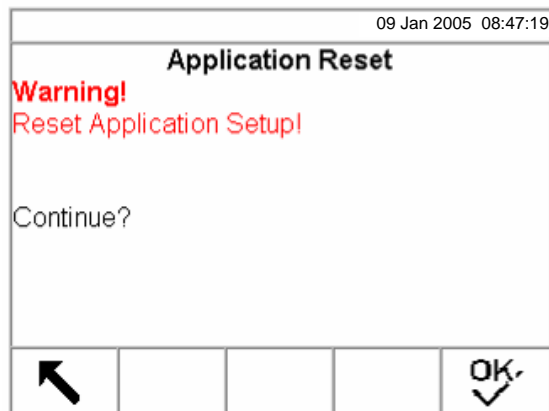

Figure 3-15: Setup Application Default Reset Screen
13. Press the ENTER key to open the Reset screen (see Figure 3-15).